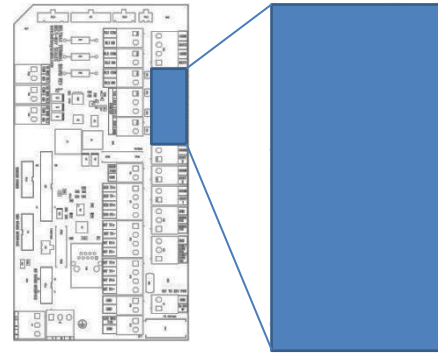

Figure 1
- PLC Digital Output card (Fig1)
- Push Button (Fig1)